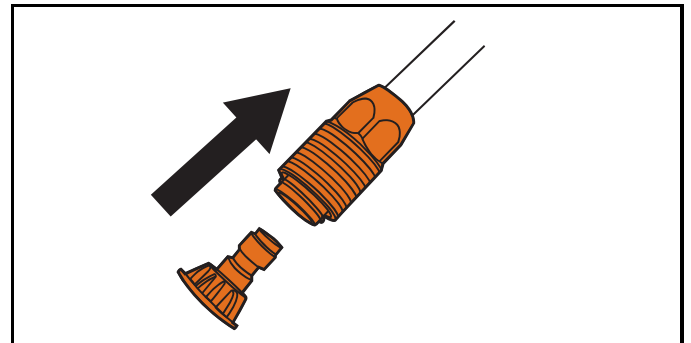
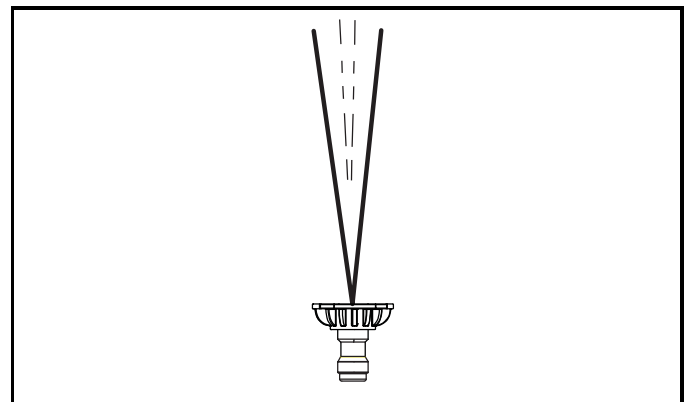

Figure 4-17. Nozzles
Figure 4-18. Wash Pressure Nozzle (Green)
- Pull back collar on quick-connect lance (Figure 4-17) and install the GREEN wash nozzle (Figure 4-18) for the following cleaning applications.